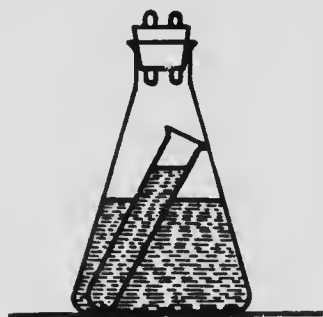

FIG. 25.
Sketch.—Fig 25.
**Experiment.**—Arrange the apparatus as shown in Fig. 25, the holes in the cork being closed with glass plugs